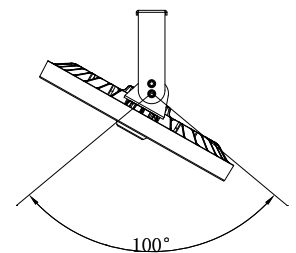

Fig 7
4. After installation, connect the wire of the fixture to the mains according to local wiring rules, ensure the connection is stable and protected on the connection, By adjusting the brackets screws, user can adjust 50° to the left or right vertically (Fig 7)